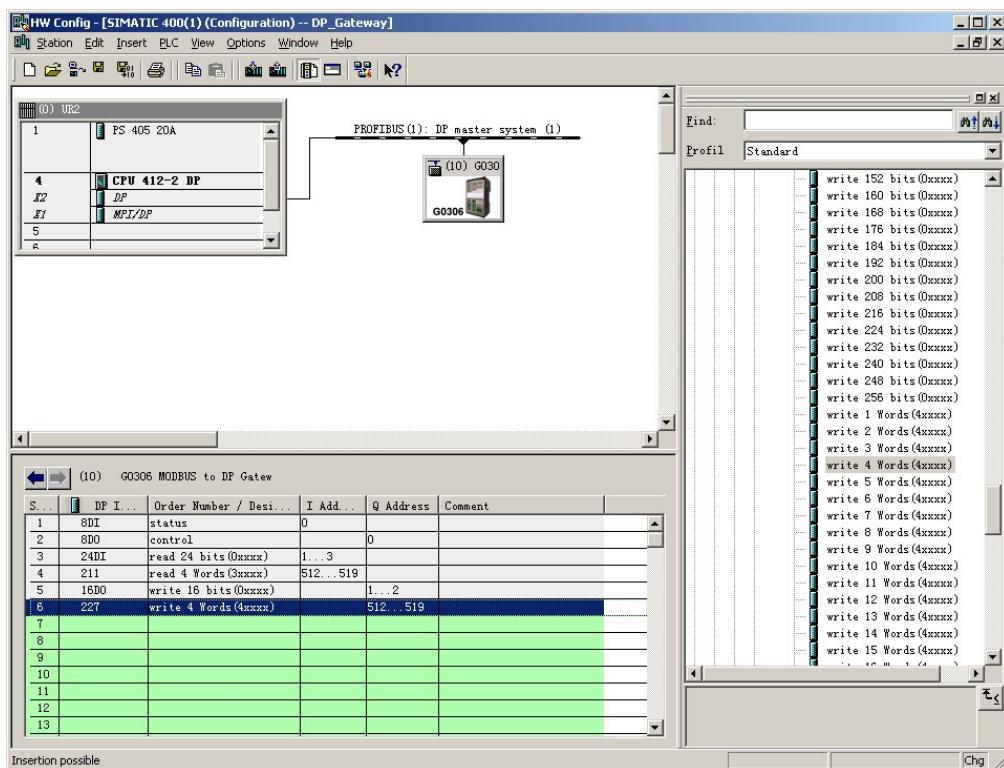

Figure 25 Add“write 16 bits(0xxxx)”module
a) Add“write 4 Words(4xxxx)”Module, as shown in Figure 25: